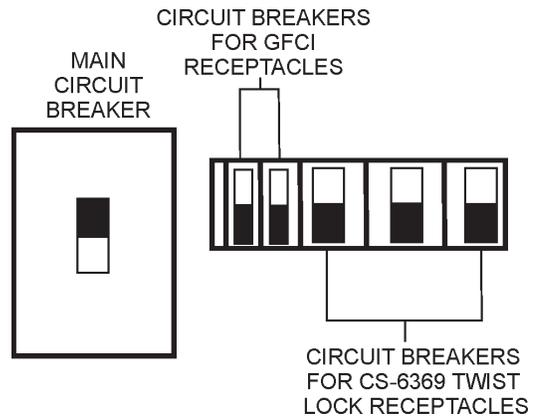

Figure 57. Main, Aux. and GFCI Circuit Breakers (ON)
17. Place the *main*, **GFCI**, and *aux.* circuit breakers in the "ON" position (Figure 57).